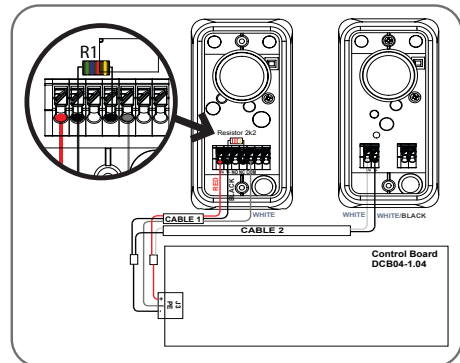
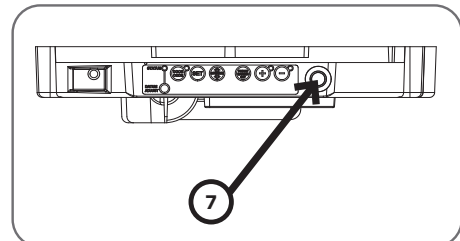
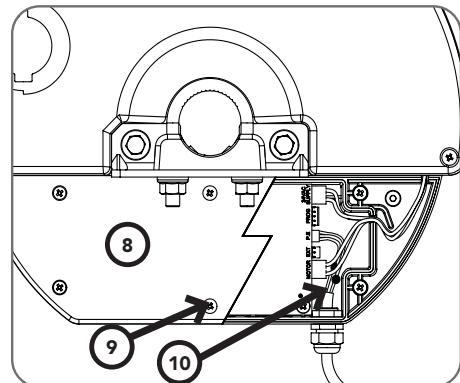

Fig. 6.10
Fig. 6.11
Fig. 6.12
A resistor 2.2kOhm is required to detect a short in the wiring of the PE Beam Receiver. The supplied resistor is to be used inside the PE Beam Receiver. Install the 2.2kOhm resistor in the PE Beam Receiver between the V- and NC terminals. Refer to the wiring diagram (Fig 6.10). Remove membrane (7) (Fig 6.11). Undo 6 taptime screws (9) M4x 3/8" and open control cover (8) (Fig 6.12). Connect the supplied Harness (10) to the IR2000TS set (3 core cable (Cable1) to Receiver; 2 core cable (Cable2) to Transmitter) from one side and to the J3 of the DCB04 control board from other side.
WARNING: Install the Safety Beams as per diagram in (Fig.6.10). Tampering with the Safety Beams could result in serious personal injury and/or property damage and will void the warranty.
AVERTISSEMENT: Raccordez le faisceau de sécurité conformément au schéma Fig. 6.10. Saboter le faisceau de sécurité présente un risque de blessure corporelle grave et/ou de dommages matériels, et annule la garantie.